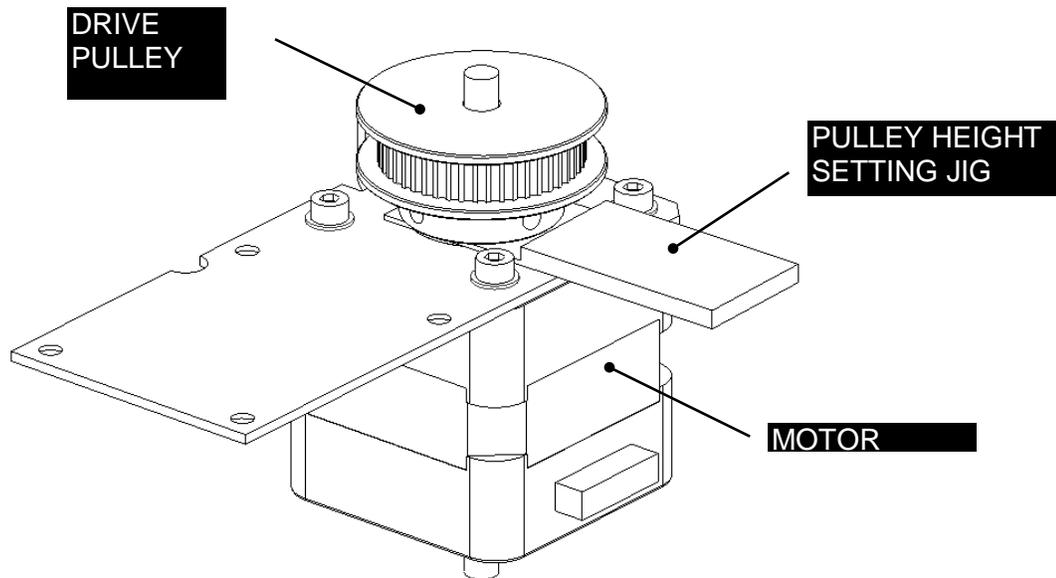

Figure 8-33: Drive Pulley
- Remove the Drive Pulley by unscrewing the two set screws (Figure 8-33). The jig (DSXFIX004) shown in the figure is not required for removal, but is required for installation of a new unit.